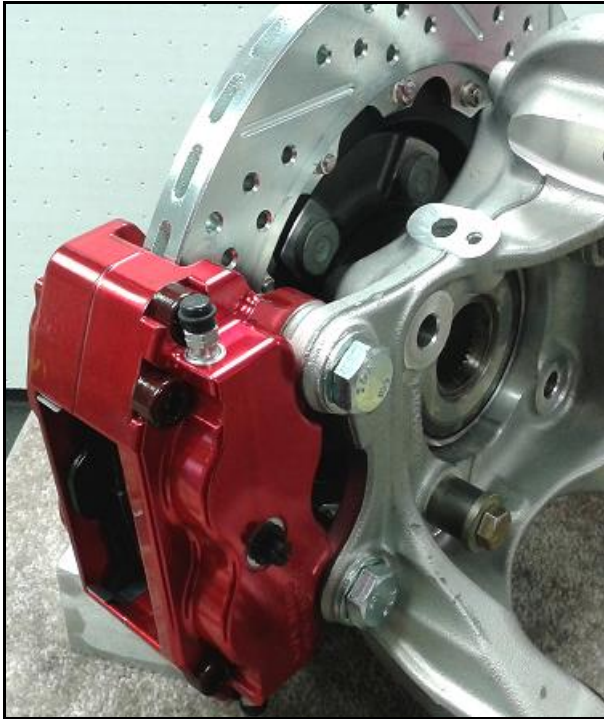

Figure 1: Caliper installed (inboard view)
6. Install the caliper to the spindle using the supplied bolts and washers. For M14-2.00 x 35mm bolts, torque bolts to 110 ft-lbs. For 3/8-24 x 1.0 bolts, torque bolts to 40 ft-lbs. See Figures 1 and 2 for reference.